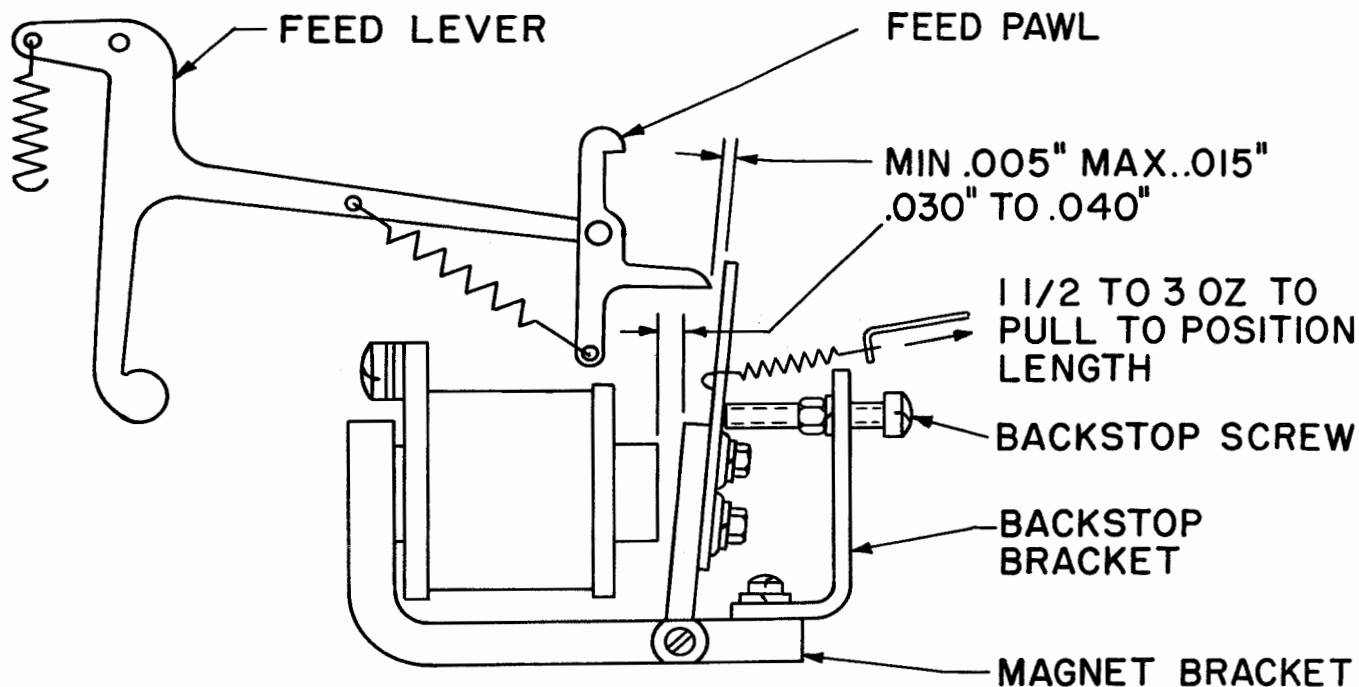

Figure 29
Note: The TP97460 magnet assembly (Figures 29 and 30), which is part of the TP136149 modification kit, stops the feeding of tape without stopping the brush arm.
5.01 Armature Air Gap: With the armature released, the air gap, measured at the top edge of the core, shall be minimum 0.030, maximum 0.040 inch. (See Figure 29.)
5.02 Armature Spring: With the armature released, the spring tension shall be minimum 1-1/2 ounces, maximum 3 ounces. To measure, unhook the spring from the backstop bracket and pull to position length. (See Figure 29.)
5.04 Feed-pawl Clearance: With the armature released and the feed lever in its lowest position, there shall be minimum 0.005, maximum 0.015 inch clearance between the blocking plate and the extension of the feed pawl. (See Figure 29.)